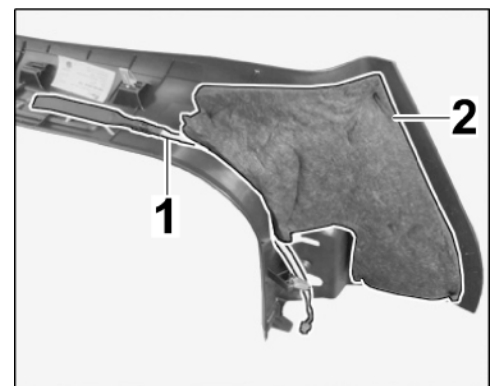

Figure 25
- 3.3.4 Lift up insulating material and affix flat conductor path to the (inner) door sill trim (⇒ *Figure 25*).